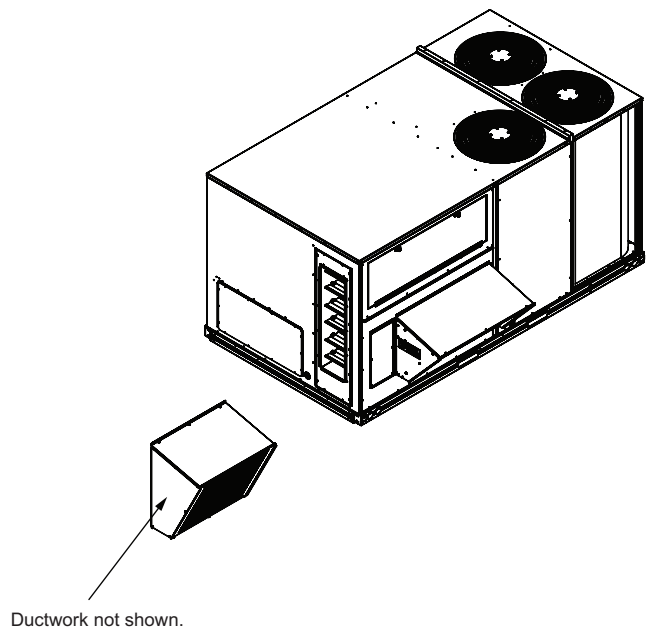

Fig. 7 — Attach Relief Damper Hood Assembly to Return Duct
11. Install provided barometric relief hood on field installed R/A duct ensuring it is water tight. (See Fig. 7.)